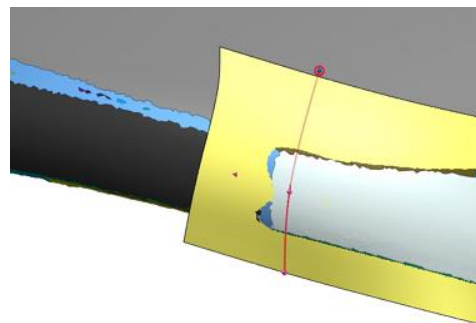

Figure 222
- Draw a second spline on the Trimmed Surface3 body (**Figure 222**).